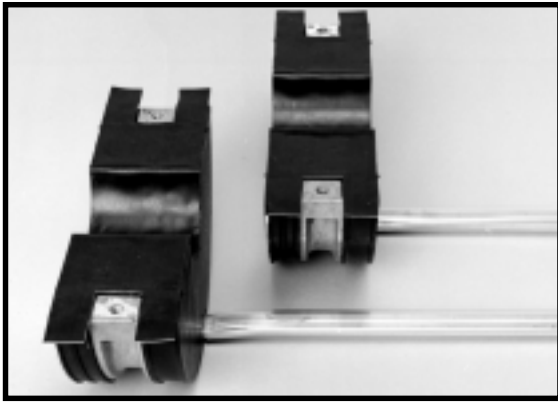

FIGURE 15 - COMPLETED PREPARATION OF END PLATE HALVES
6.13 The completed preparation of the feeder cable end plate halves. (Figure 15)